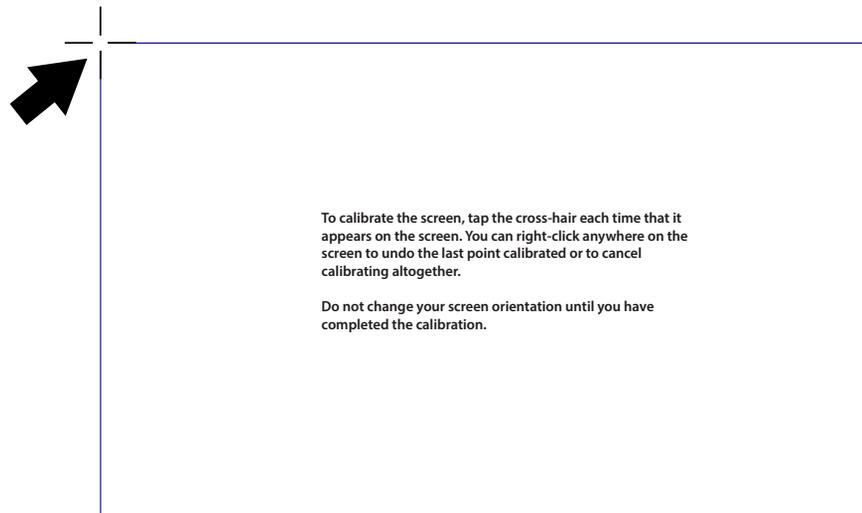

Figure 17-4 *Calibrating the Touch Screen*
The Calibration screen is displayed (Figure 17-4).
4. Using the stylus, follow the screen prompts and tap on the center of the cross-hairs as they appear at each corner on the screen (Figure 17-4).